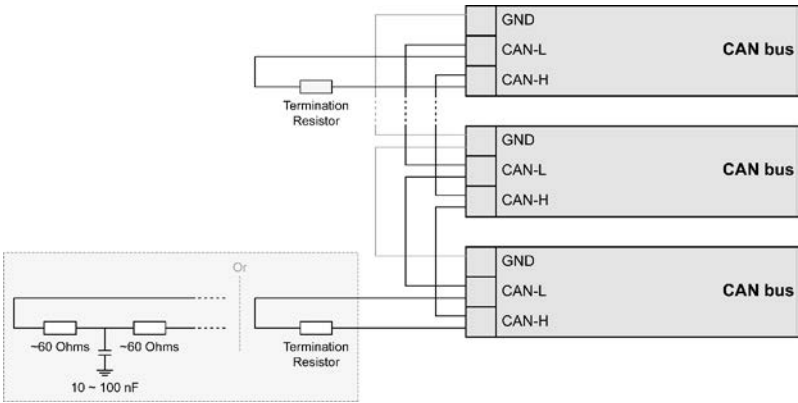

Fig. 78: CAN bus - termination
The termination resistor is connected between CAN-H and CAN-L (Fig. 78).
- Divide the termination resistance into 2x60 Ohms with a center tap connected to ground via a capacitor of 10 to 100 nF (Fig. 78).